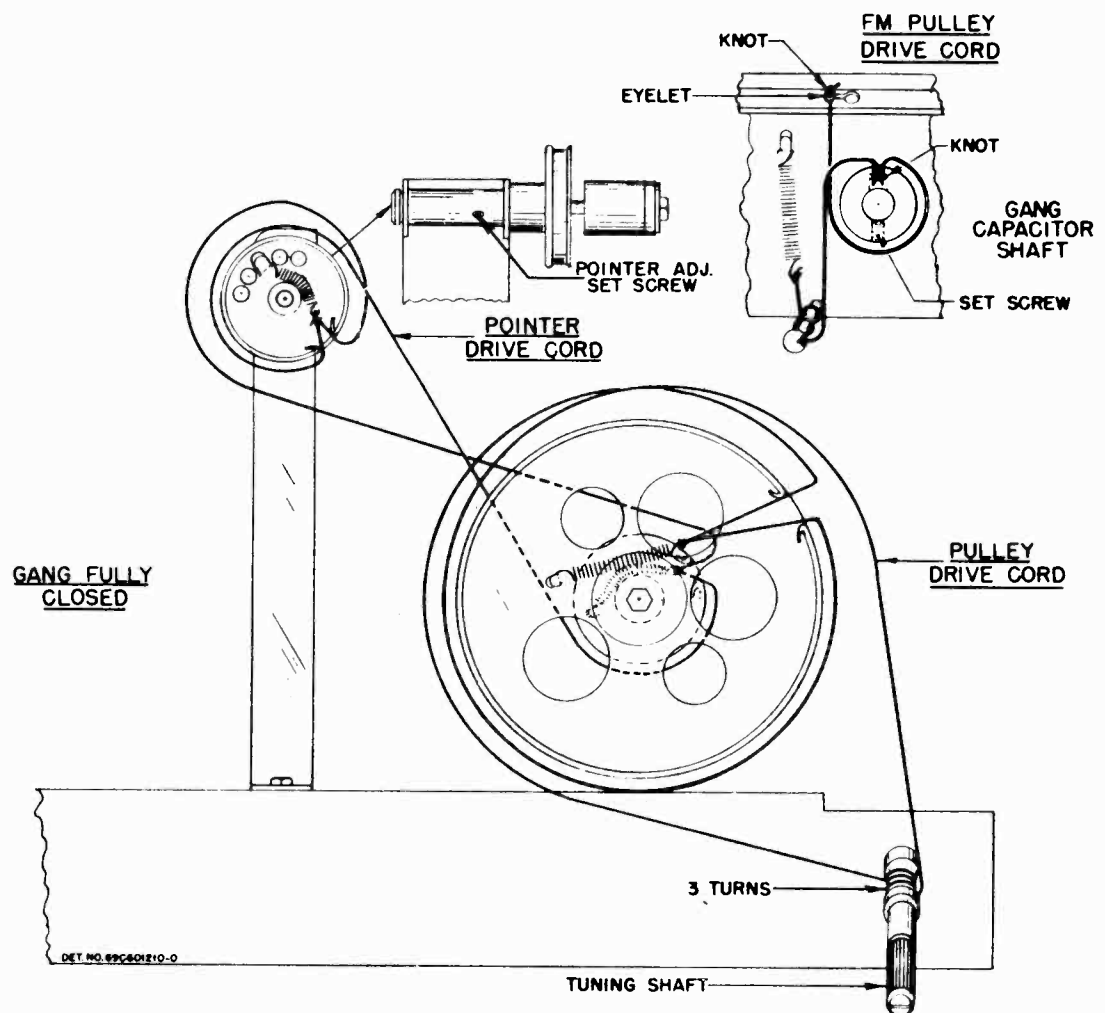

FIGURE 3. POINTER AND DRIVE CORD RESTRINGING DETAIL
5. From the back of the cabinet, loosen the pointer adjustment setscrew (see Figure 3) and pull the pointer and shaft assembly from the chassis. CAUTION: Do not remove the nut from the front of the pointer, as the detent ball and spring will fall out, and may become lost.
2. From the back of the cabinet, loosen the pointer adjustment setscrew (see Figure 3). CAUTION: Do not remove the nut from the front of the pointer.